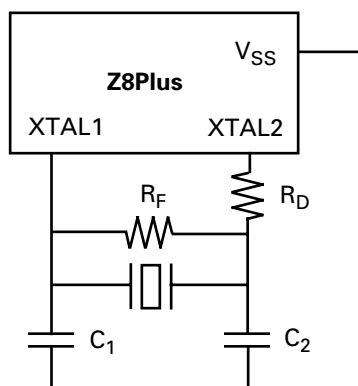
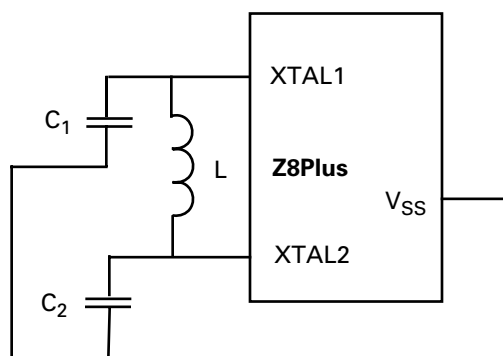
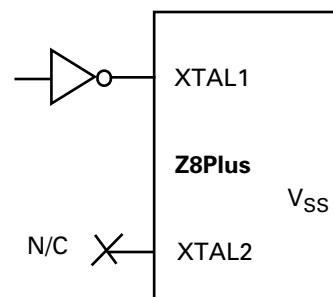

Figure 16. Crystal/Ceramic Resonator Oscillator
Figure 17. LC Clock
Figure 18. External Clock
Crystals and ceramic resonators (Figure 16) should exhibit the following characteristics to ensure proper oscillation:
Depending on the operation frequency, the oscillator may require additional capacitors, C₁ and C₂, as illustrated in Figure 16 and Figure 17. The capacitance values are dependent on the manufacturer’s crystal specifications.
Figure 16, Figure 17, and Figure 18 recommend that the load capacitor ground trace connect directly to the V_{SS} (GND) pin of the Z8Plus. This requirement assures that no system noise is injected into the Z8Plus clock. This trace should not be shared with any other components except at the V_{SS} pin of the Z8Plus.
The Z8Plus oscillator can use an inductor capacitor oscil-lator (LC) network to generate an XTAL clock (Figure 17).